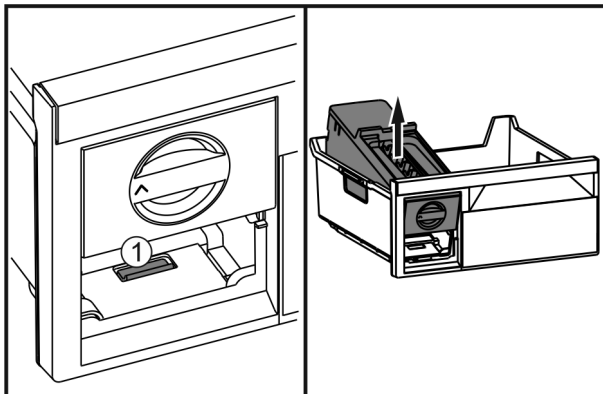

Fig. 39
- ▶ Press the lug Fig. 39 (1), lift up the EasyTwist-Ice at the rear and take it out of the freezer drawer.